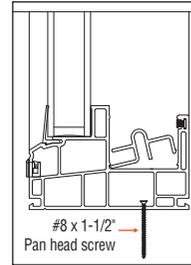
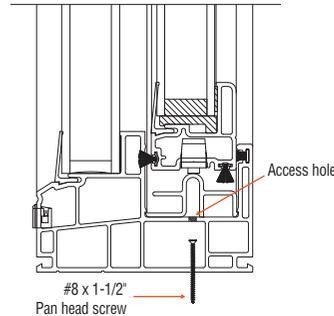

fig. 6
fig. 7
- c. To fasten the sill of the slider you first remove the interior sash and then unsnap the bottom slider track (fig. 6). Drill a 3/8" access hole through the first chamber of the frame using a #8 x 1-1/2" Pan head screw fasten through the access hole. It is important to seal the screws in silicone caulk and insert a 3/8" hole plug (fig. 7).